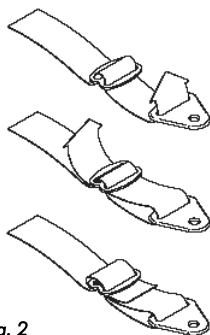

Fig. 2
3. Attach the Flat-Mount end fitting at this chalk mark (Fig. 2).